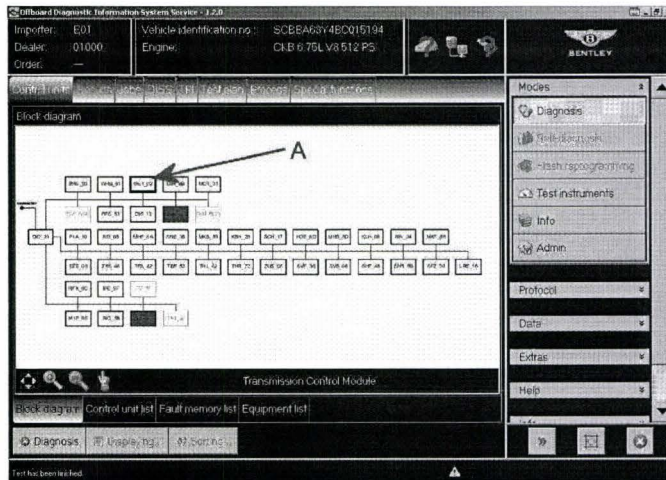

Figure 13
- Referring to Figure 13 (Point A) - Select Transmission Control Module - GET_02